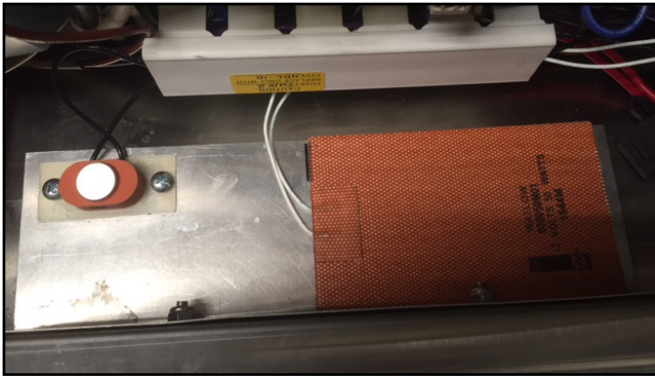

Figure 13 - New Control Panel Heater Pad and Thermostat.
- Install the control panel heater pad and thermostat to the new aluminum bracket. Use 1/4" self-tapping screws to mount thermostat, and RTV caulk to attach heater pad to sheet (Figure 13).